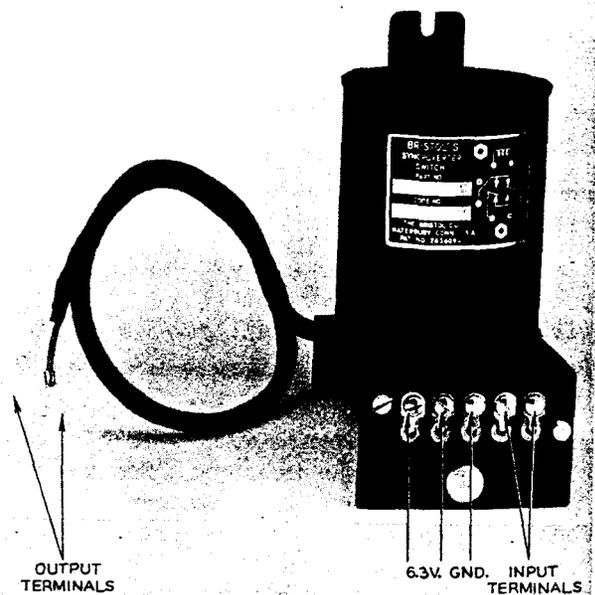

FIGURE 12. SYNCROVERTER SWITCH
5. **Syncroverter® Switch.** (See Fig. 12) With the push button on Dynaprobe depressed to provide a d-c signal, apply test prongs to input terminals of Syncroverter switch (orange and brown wires). If Syncroverter switch is functioning correctly, the balancing motor will move the pen up or downscale (depending upon phase). Reversing the test prongs will cause the balancing motor to move the pen in the opposite direction. If the balancing motor does not move the pen up or downscale, disconnect the orange and brown wires from Syncroverter switch and check again with the test prongs. If the balancing motor still does not move the pen up or downscale with this test, the Syncroverter switch is defective and should be replaced.